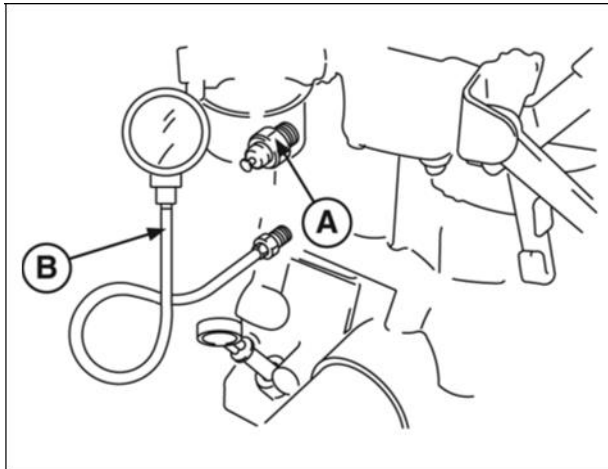

Figure 5
2. Remove oil pressure switch (A, Figure 5).
3. Install oil pressure gauge (B).